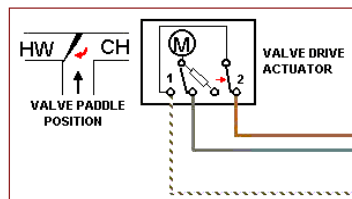

Fig. 9
c) After turning a few degrees more, cam 2 operates switch 2 (Fig. 9).